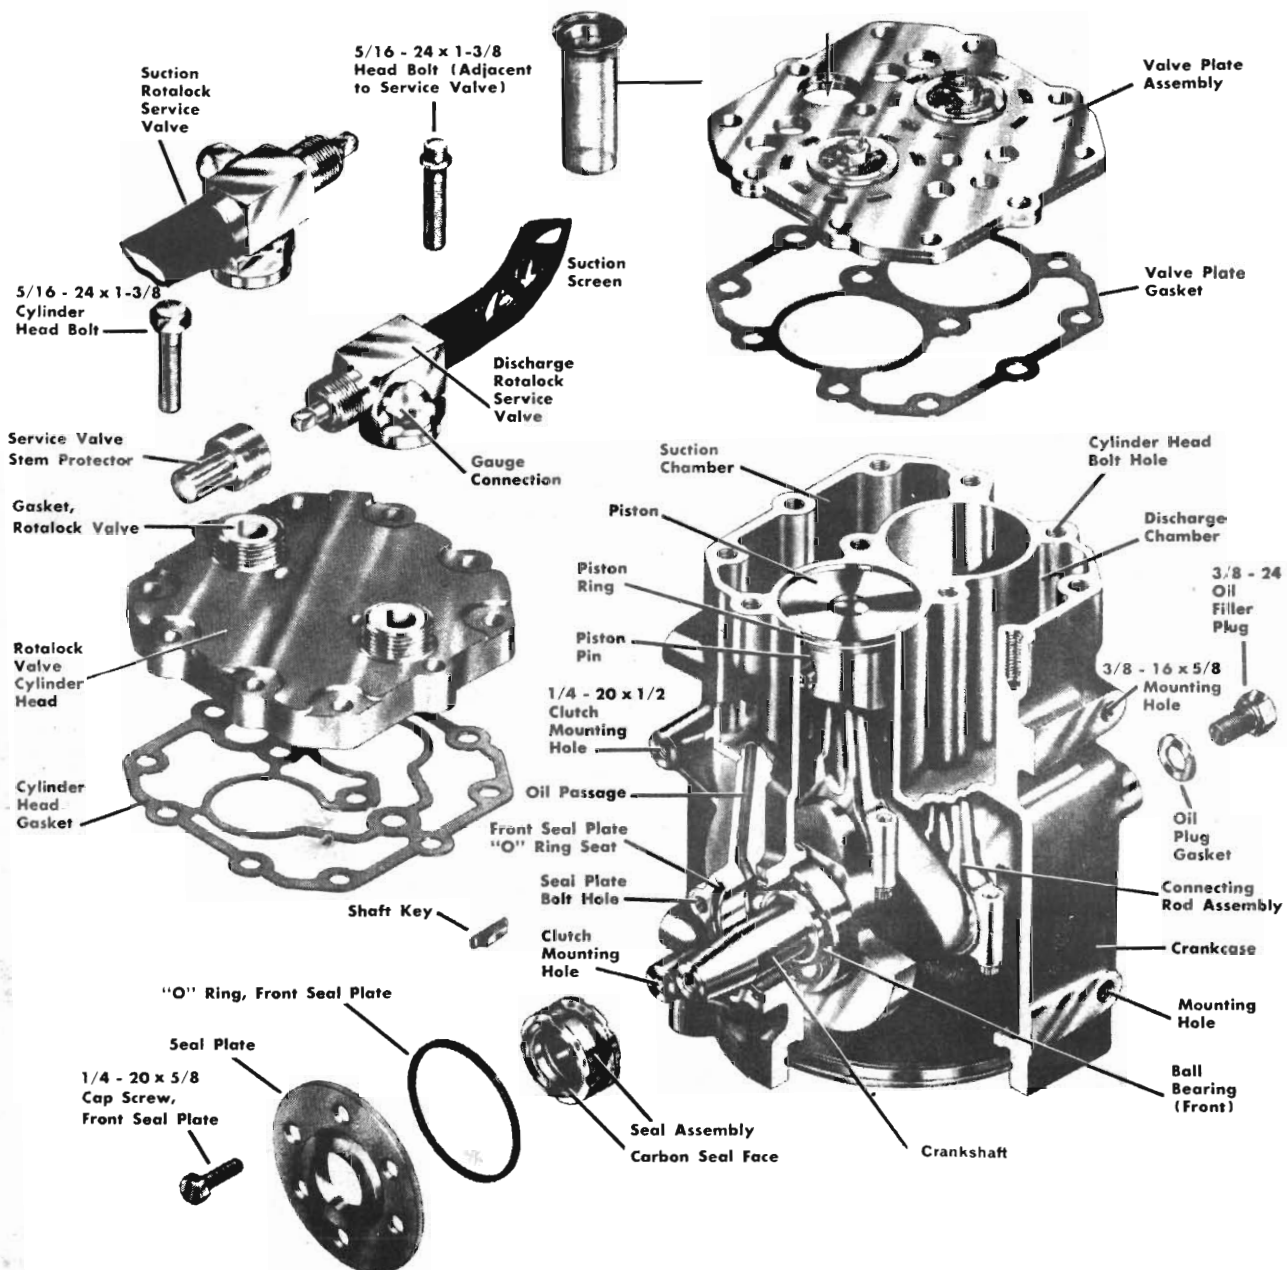

Fig. 42 - Tecumseh A.C. Compressor Components (disassembled view)
(1) Remove the compressor assembly as described in Compressor Replacement, *para. 34*, then refer to *Fig. 42*.
(2) Remove the cylinder head bolts.
(3) Remove valve plate and cylinder head assembly by lightly tapping with a hide hammer to separate each.
(4) Clean all gasket residue and foreign material from the cylinder head and cylinder block surfaces, taking care not to scratch or nick the machined surfaces.